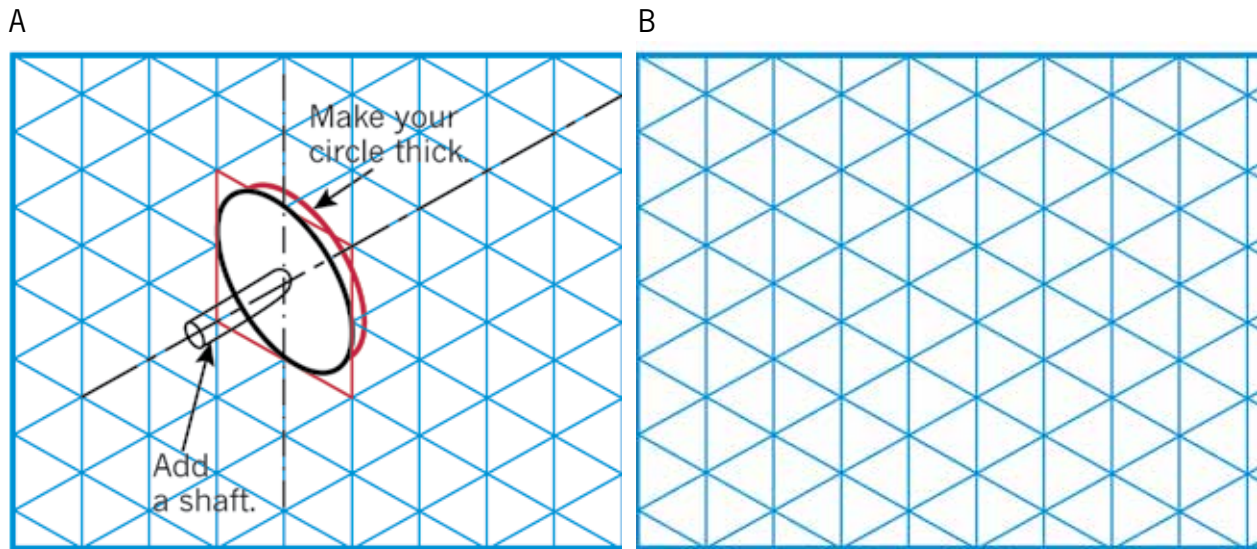

Figure 20 A and B: Draw your own isometric circle on grid B above.
- **Step 7:** Now see if you can draw one for yourself. Copy the diagram in Figure 20 A onto the isometric grid in Figure 20 B.